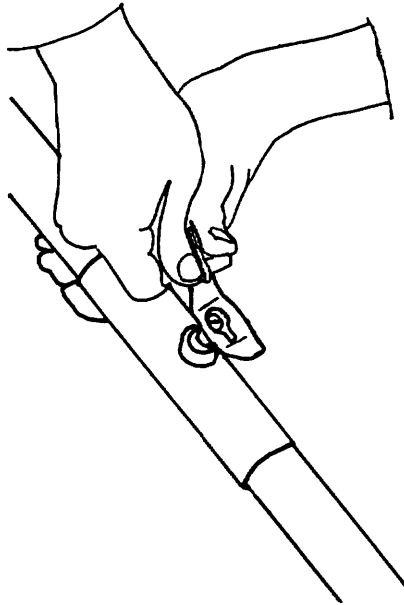

FIG 9
8) Attach the rear kingpost tang to the rearward most bolt on the keel. (Fig 9) Be sure that the tang slides all the way forward on the bolt, and be sure to attach the safety.